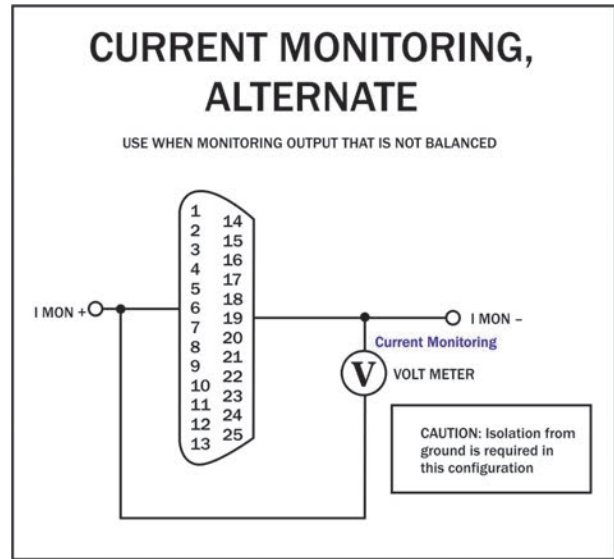

Figure 6.14 – Remote Current Monitoring, Alternate Method
**Method:** Connect a voltage meter to monitor the output current being produced by the amplifier. Connect across PIN 6 (IMON+) and PIN 19 (IMON-). See **Figure 6.14**.